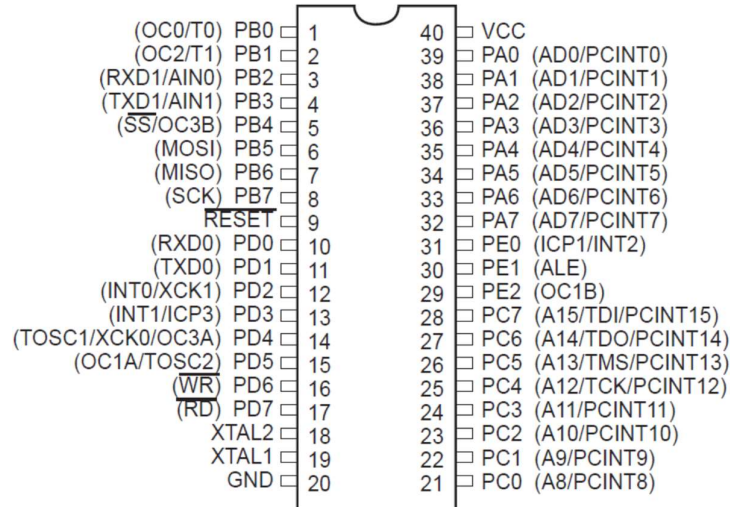

Figure 5. Atmel AVR ATmega162.
- b. The microcontroller in a) should be interfaced to a CAN controller featuring SPI and an interrupt line, constituting an embedded computer intended for a critical control task in a CAN network denoted as CAN node A. See figure 5 for the pinout of ATmega162 and show how you would connect the CAN controller to it.
- The system should be built up around a microcontroller of type AVR ATmega162 as shown in Figure 5.